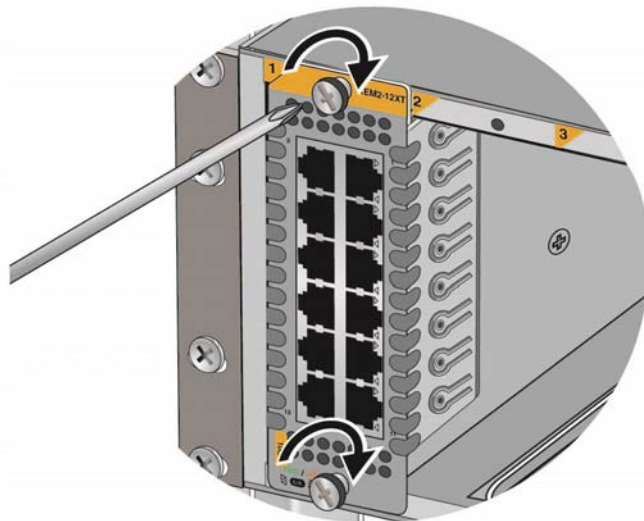

Figure 40. Tightening the Two Captive Screws on the Ethernet Line Card
7. Tighten the two captive screws on the card to secure it in the chassis. Refer to Figure 40.